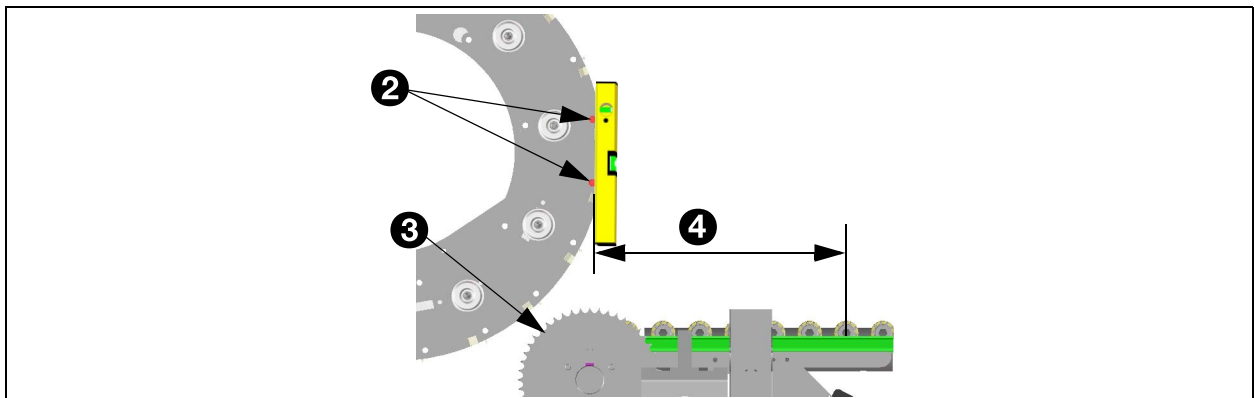

Fig. 71 - Distance between roller and shafts
4. Loosen the bolts of the chain-wheels (3). See fig. 71.
6. Adjust a roll at 319 mm (4) from the axes.